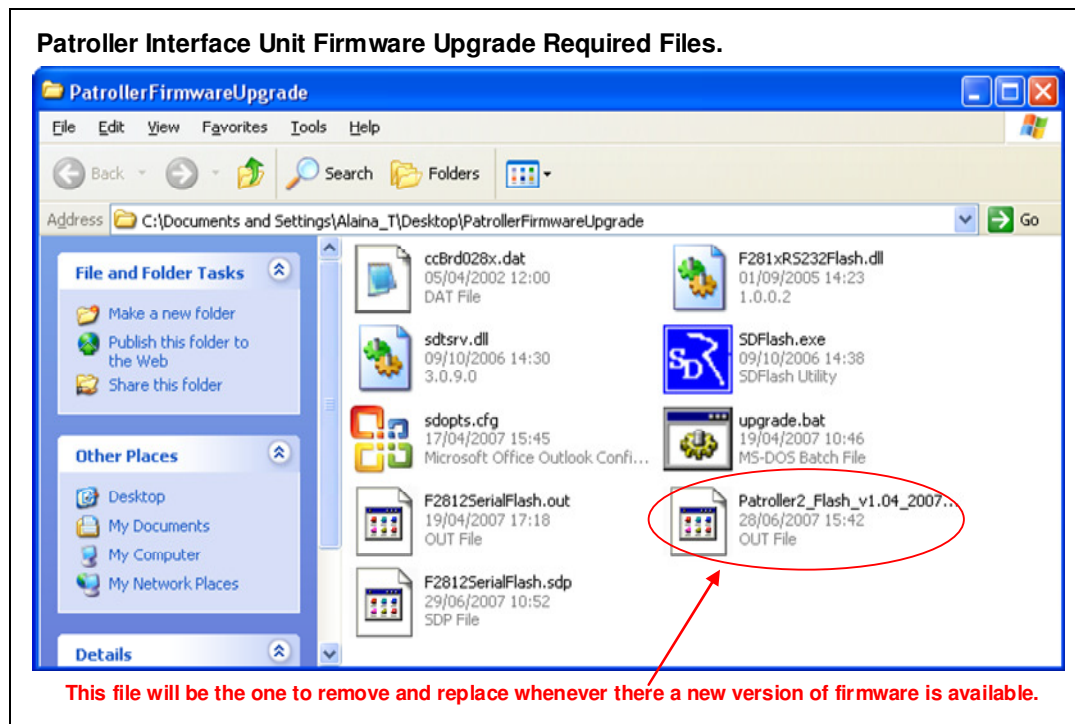

Figure 1: Required Files
The files shown in *Figure 1* are required to complete the firmware upgrade process.
Note the circled red area in *Figure 1*: This file is the actual firmware to be upgraded into the Patroller Interface Unit and should be replaced with the new file.
- 2.1. All files are currently stored in Firmware_upgrade_files directory (This directory will be defined by the end-user). An example is shown in *Figure 1*.